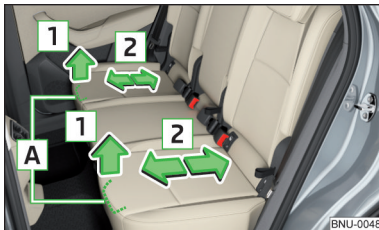

Fig. 87
► Pull lever **A** in the direction of arrow **1** and move the seat to the desired position in the direction of arrow **2** » Fig. 87. After releasing the control lever the latch must engage audibly.
- › Slide the seat backwards up to the stop » Fig. 87 on page 87.